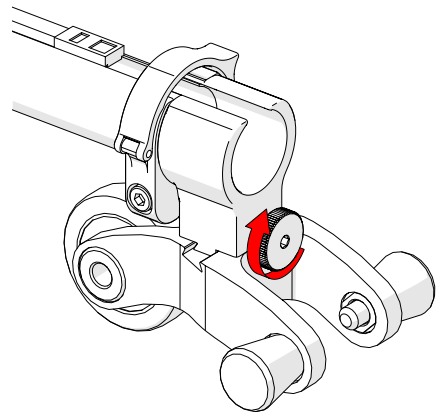

Fig. 83 - Tighten knob
2. Once centred on the dovetail link, tighten the cable management's dovetail mount knob (Fig. 83).